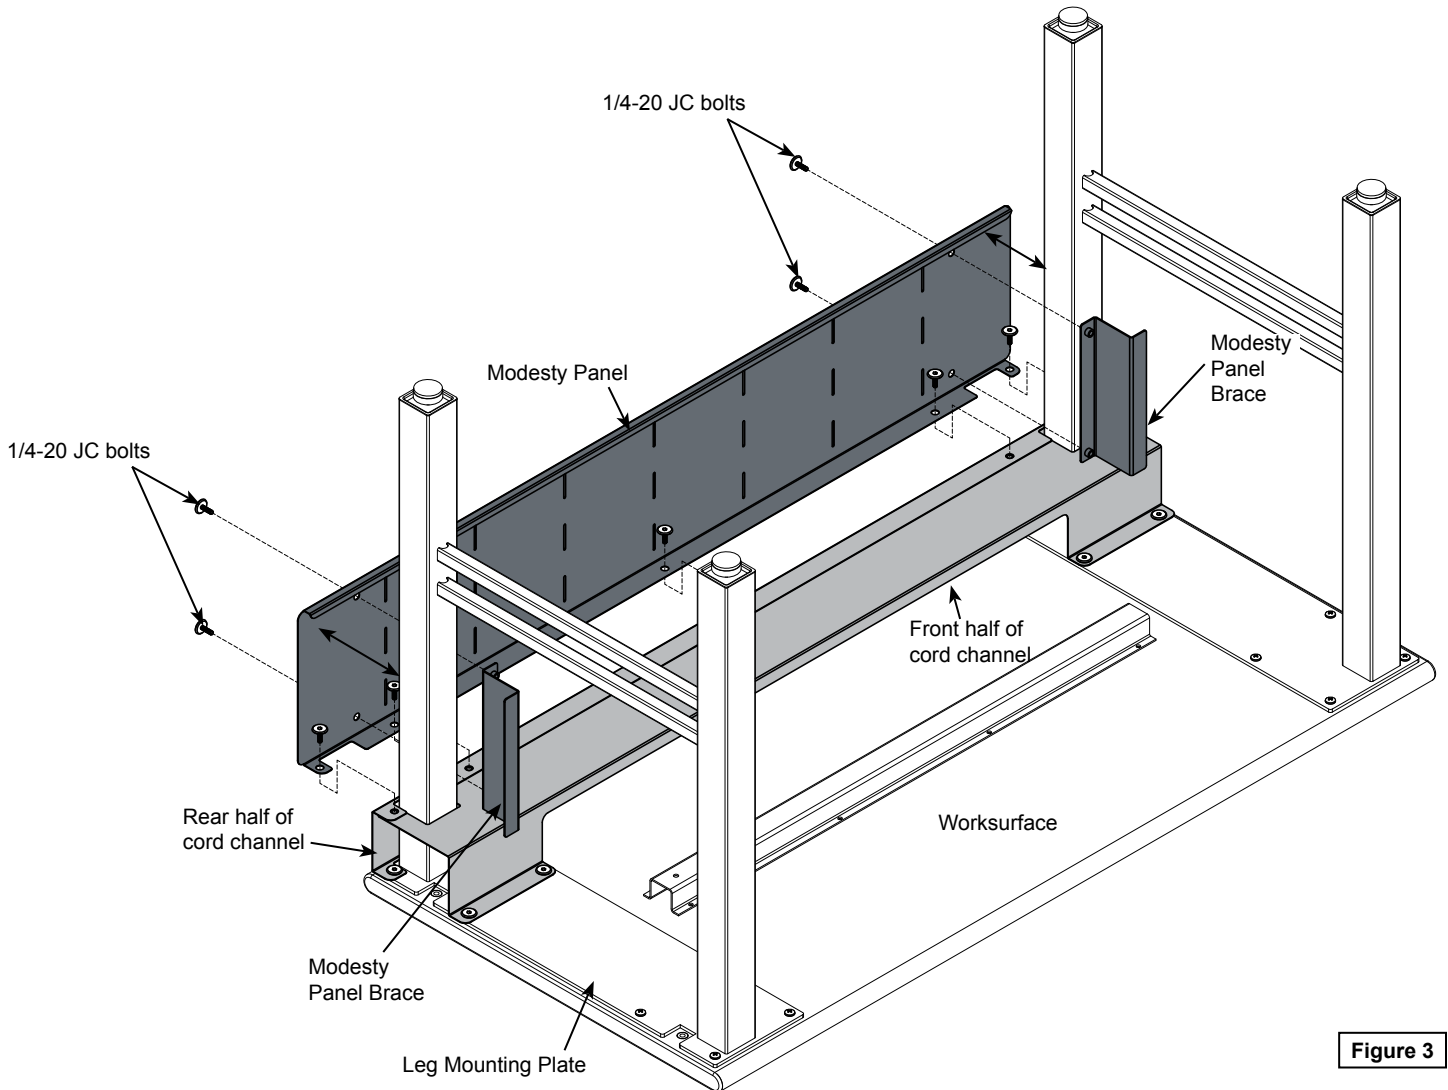

Figure 3
3. Attach the front half of the cord channel to the worksurface (through the leg mounting plates) as shown using 1/4-20 JC bolts and tighten securely. **Figure 3.**